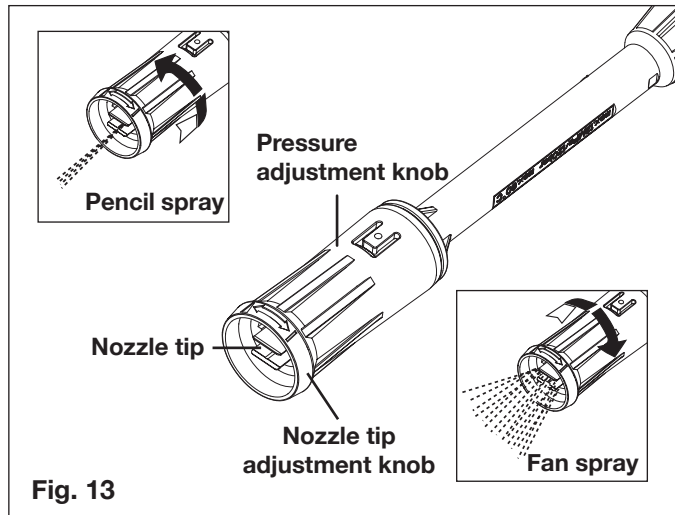

Fig. 13
2. The water pressure can be adjusted from low pressure (–) to high pressure (+) by turning the pressure adjustment knob. The nozzle tip can be adjusted from pencil spray (wide open tip) to fan spray (narrow tip) by turning the nozzle tip adjustment knob (Fig. 13).